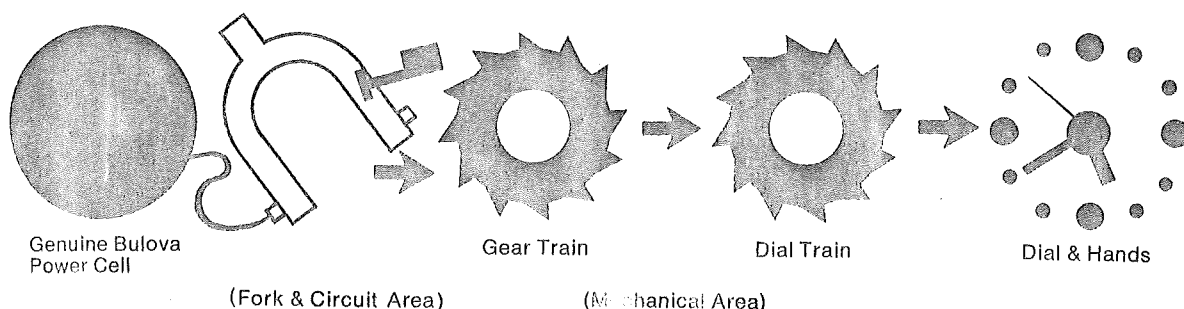

Fig. 24
9. By disengaging the index finger, as in step 4, it may now be determined whether the problem is within the fork and coil area or within the mechanical area of the movement (fig. 24).